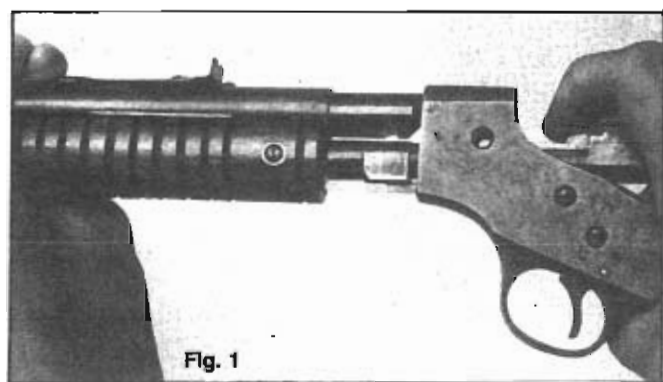

Fig. 1
block and receiver in one hand and, with the other, work the barrel forward out of the receiver and off the outer magazine tube (15). (Fig. 1)